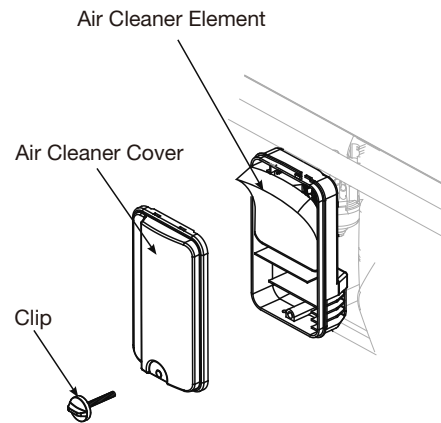

Figure 10: Unscrew air cleaner cover
1. Open the air cleaner clip and open the air cover. Check the air cleaner element for complete and clean (see Figure 10).